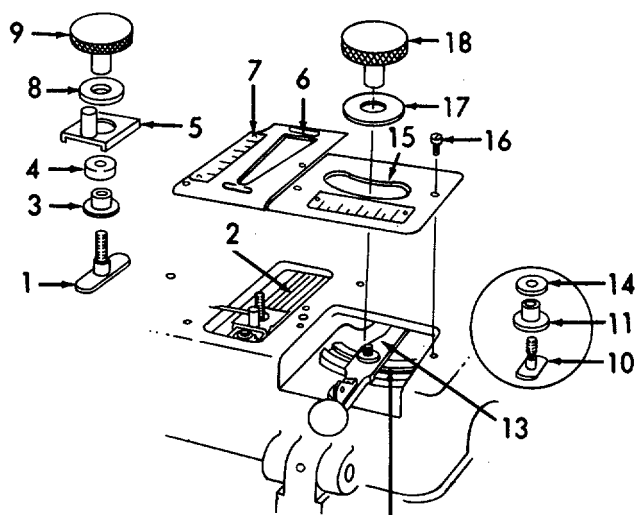
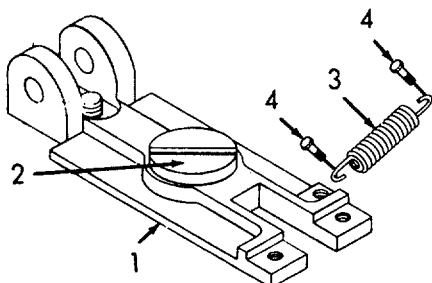

Figure 6-154. Control Knobs and Mechanism, Installation.
Figure 6-155. Adjustment and Shifter Levers, Installation.
e. *Installation (Refer to Figures 6-154 through 6-156).*
- (1) Refer to Figure 6-154. Install sliding stud (1) and shifter lever (2).
- (2) Install stud bearing (3), washer (4) and indicator (5).
- (3) Install plate (6) and two screws (7).
- (4) Install washer (8) and knob (9).
- (5) Install sliding stud (10), stud bearing (11), and pivot (12).
- (6) Install adjustment strap (13) and washer (14).
- (7) Install plate (15) and two screws (16).
- (8) Install washer (17) and knob (18).
- (9) Refer to Figure 6-155. Install bed (1) and screw (2).
- (10) Install spring (3) and two screws (4).